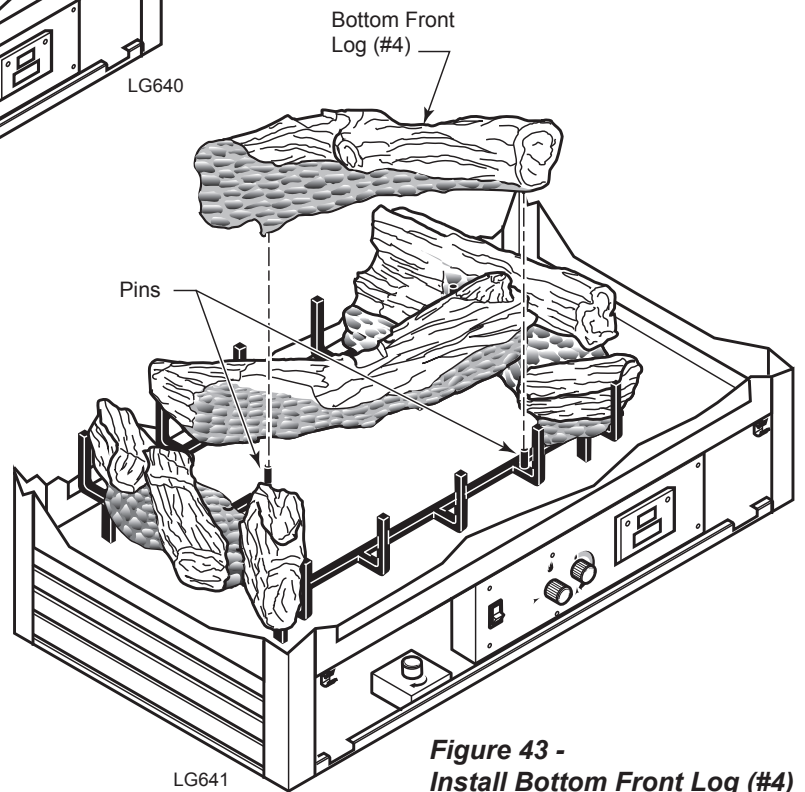

**Figure 41 -
4. Place right log (#2) on right end of grate. Line up three (3) pin holes in bottom of log with three (3) pins on grate. *Figure 41*